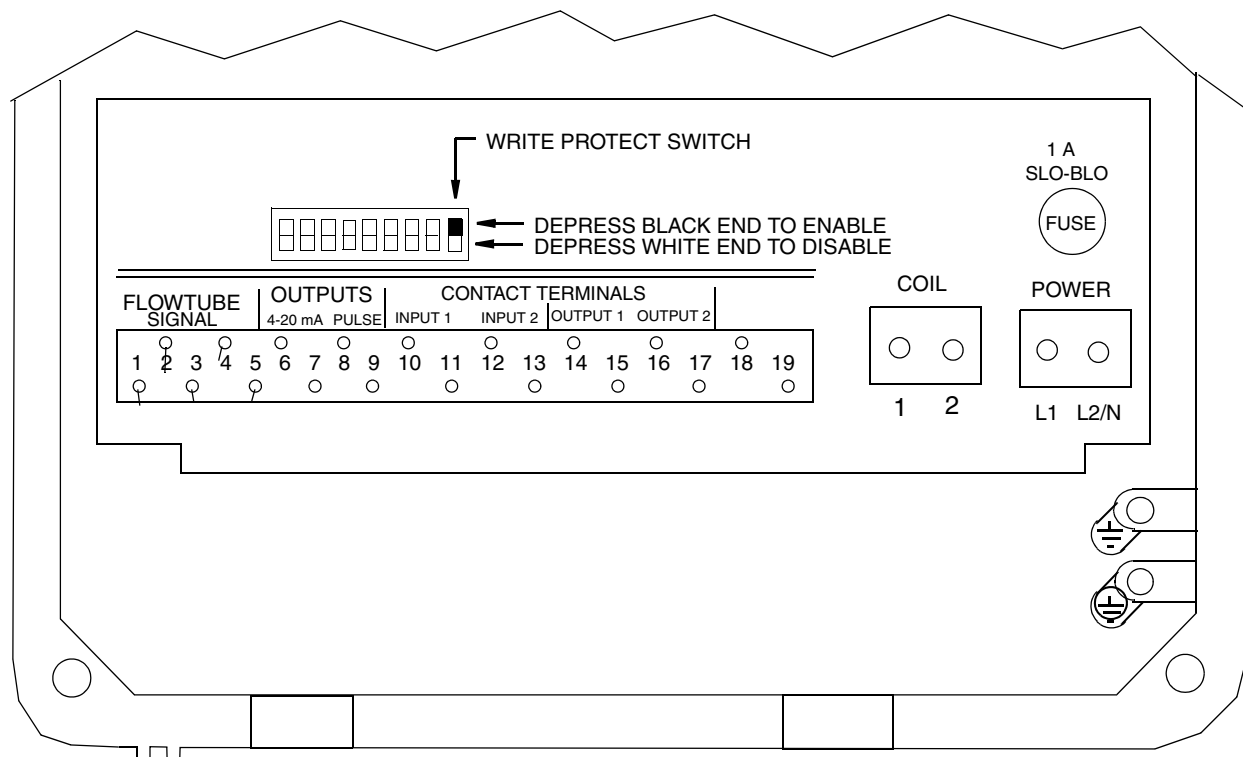

Figure 5. Write Protect Switch Location
The write protect DIP switch (refer to Figure 5 for location) allows or prevents anyone from changing the configuration of the transmitter or resetting the totalizer. This feature is usually only used in custody transfer applications or for another reason the user wants to ensure that the configuration and or totals are not changed. Therefore, the switch is usually placed in the disable position (factory default position). Placing the switch in the enable position, engages the protection.
- ◆ **Write Protection** — Shows whether the Write Protect dip switch is in the enable position so that no Setup (configuration) changes can be made. This feature is usually used only in custody transfer applications or for another reason that the user wants to assure that the configuration is not changed. For procedure to change the setting of this switch, see “Write Protect Switch” on page 14 and Figure 5 on page 15 in this document. Additional information is available in MI 021-402.